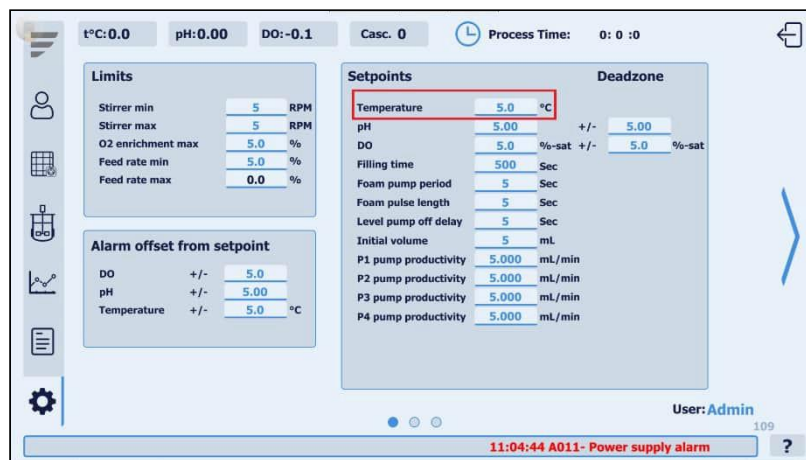

Figure 7.2. Stirrer rotational speed Min/Max parameter setting window
While in Automatic mode the stirrer rotational speed regulation is implemented, if the respective limits (Min/Max) are entered, the values are not equal to each other and the Min parameter is smaller than the Max parameter. The stirrer rotational speed can be regulated within the range determined by the Min and Max parameters (to set them up use the following access path: MENU → SETTINGS → SETP./LIMITS → LIMITS → STIRRER highlighted in Figure 7.2).
The stirrer speed setting adjustment for pO₂ cascade control can be performed using the path: MENU > SETTINGS > PUMPS/CASC. > pO₂ CASCADE. More detailed information about cascade control can be found in Section 7.2: "DISSOLVED OXYGEN (DO) CONTROL BY STIRRER ROTATION RATE" and Section 12: "DISSOLVED OXYGEN (DO) CONTROL". To set-up the Min/Max parameters for stirrer rotational speed control, use the following access path: MENU → SETTINGS → SETP./LIMITS → LIMITS → STIRRER (highlighted in Figure 7.2).